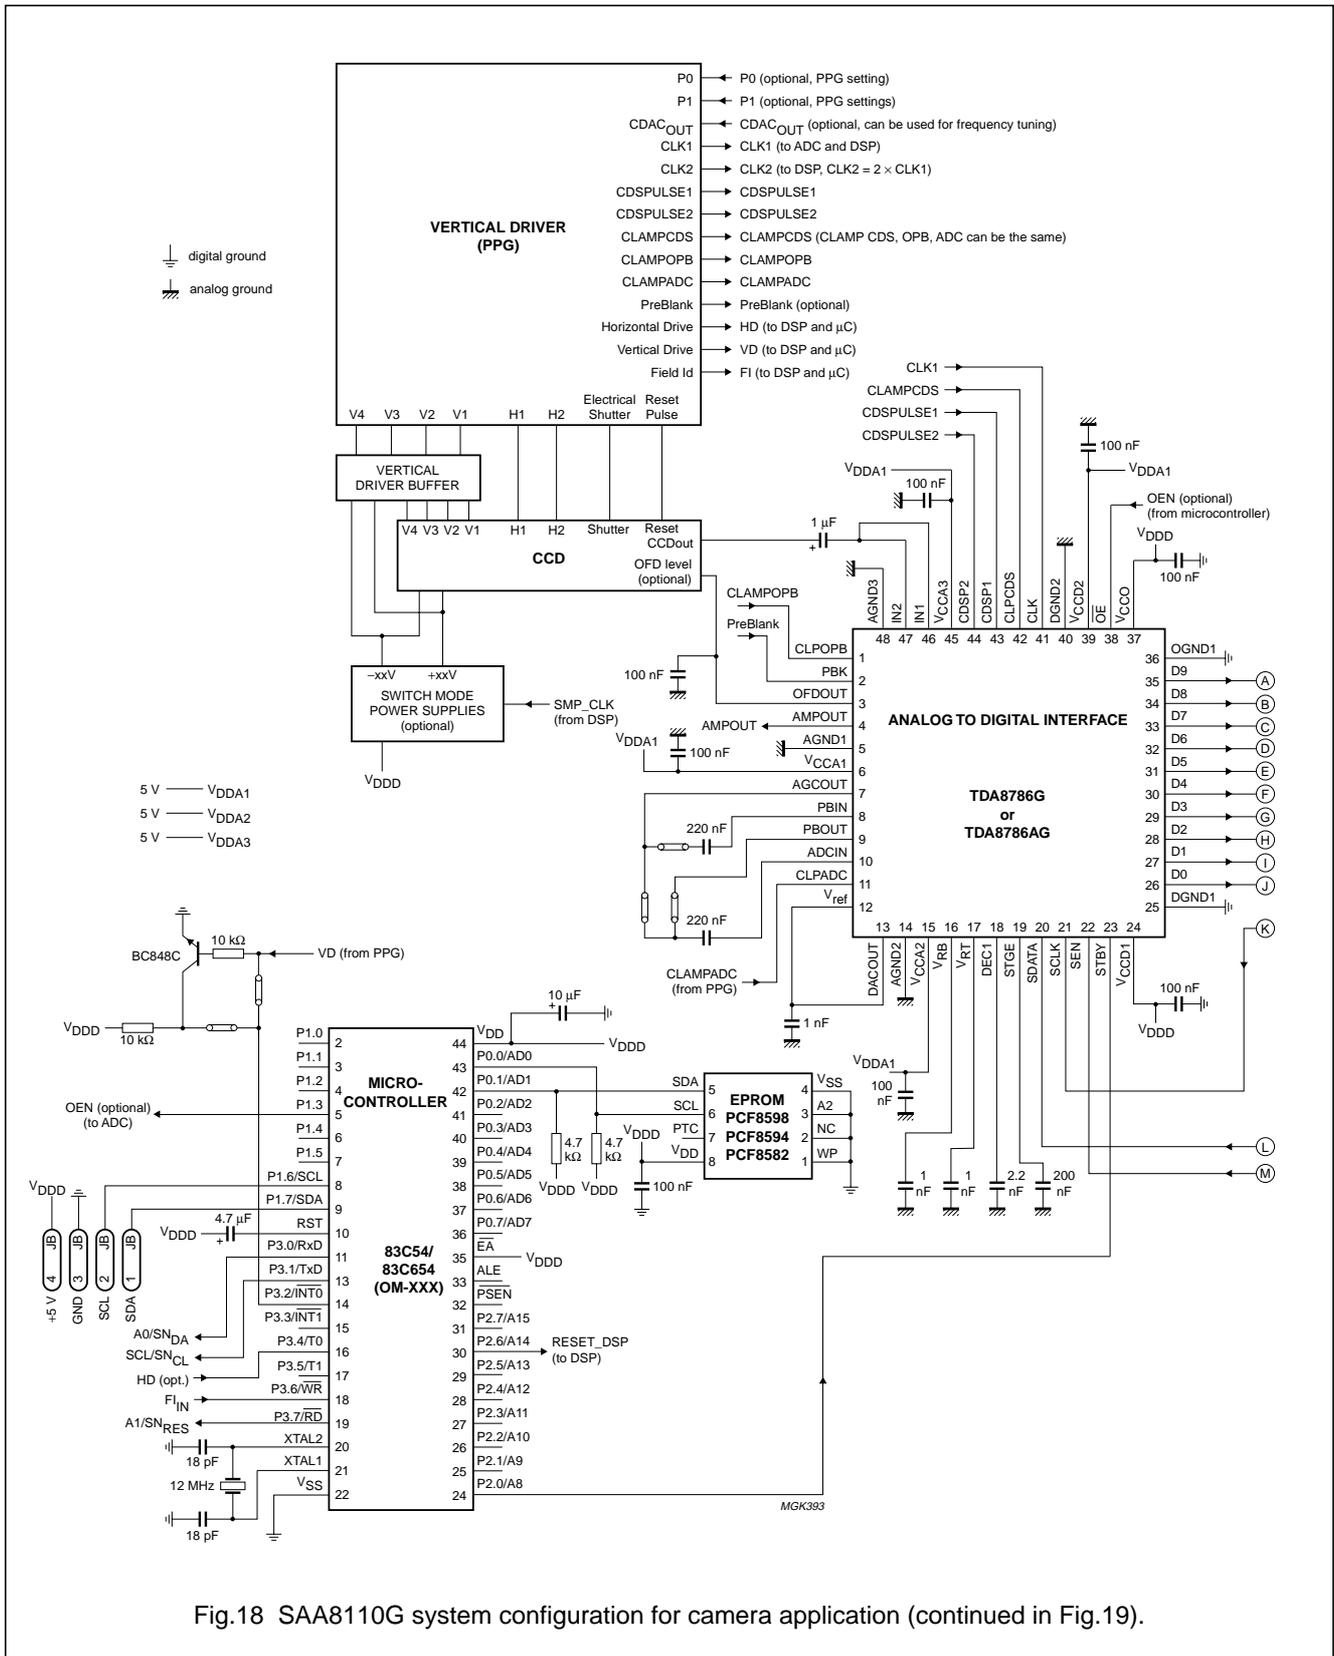

Fig.18 SAA8110G system configuration for camera application (continued in Fig.19).
**Table 27** Possible components for the application of Figs 18 and 19.
- In the configuration of Figs 18 and 19, the microcontroller reads and writes data from/to the DSP using the SNERT-bus (UART-mode 0). Optional external control is available through the I2C-bus.